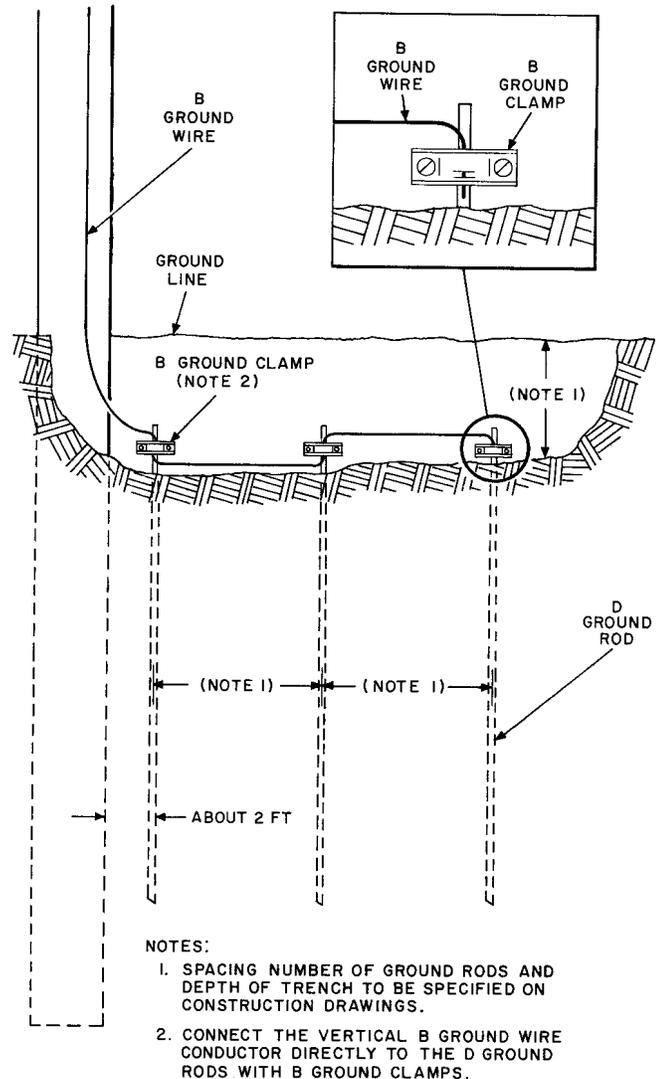

Fig. 7—Connection to Ground Rods
5.02 If 104- and 108-type protectors are to be installed at a pole that is not equipped with a grounding conductor that meets the requirements of 5.01, it will be necessary to install a B Ground Wire and connect it to one or more D Ground Rods driven in the earth near the base of the pole. Connect the B Ground Wire directly to the ground rod with a B Ground Clamp. The ground wire should be fastened to the pole at 18-inch intervals with galvanized staples and where required by local regulations, should be covered with wood molding. Fasten the molding with No. 16 cable straps and 1-1/2 inch strap nails at 4-foot intervals. Fig. 7 illustrates the method of connecting the vertical grounding conductor to one or more ground rods.